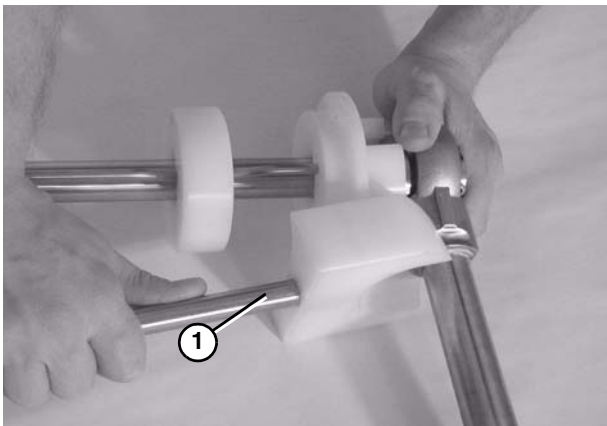

Figure 78
4. Attach the guard bar (Figure 78, item 1).